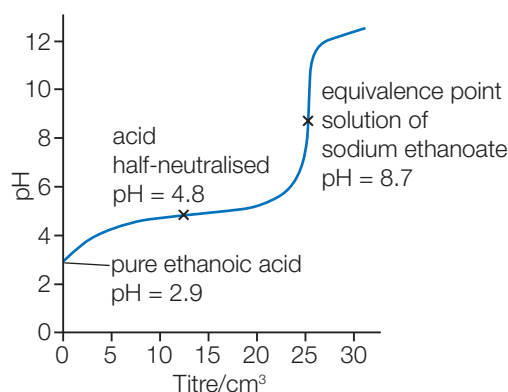
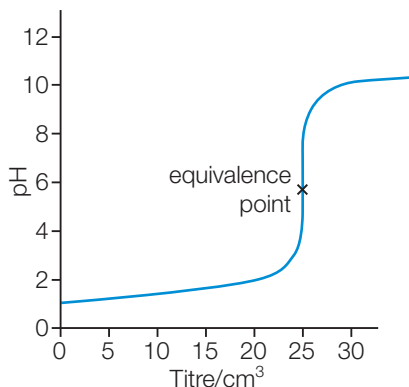

Figure 12.19 ◀
Figure 12.21 ▲
Note in Figure 12.19 that at halfway to the equivalence point, the added alkali has converted half of the weak acid to its salt. In this example, at this point $[\text{CH}_3\text{COOH(aq)}] = [\text{CH}_3\text{COO}^-\text{(aq)}]$.
At the equivalence point itself, the solution contains sodium ethanoate. As Figure 12.19 shows, the solution is not neutral at this point. A solution of a salt of a weak acid and a strong base is alkaline. Sodium ions have no effect on the pH of a solution, but ethanoate ions are basic. The ethanoate ion is the conjugate base of a weak acid.
The pH change on gradually adding $0.1 \text{ mol dm}^{-3} \text{ NH}_3(\text{aq})$ from a burette to 25 cm^3 of a 0.1 mol dm^{-3} solution of $\text{CH}_3\text{COOH}(\text{aq})$. Before the end-point the curve is essentially the same as in Figure 12.19, but after the end-point it is as in Figure 12.21. Note the resulting small change of pH around the equivalence point
- 37 a)** Why is methyl orange an unsuitable indicator for the titration illustrated by Figure 12.19?